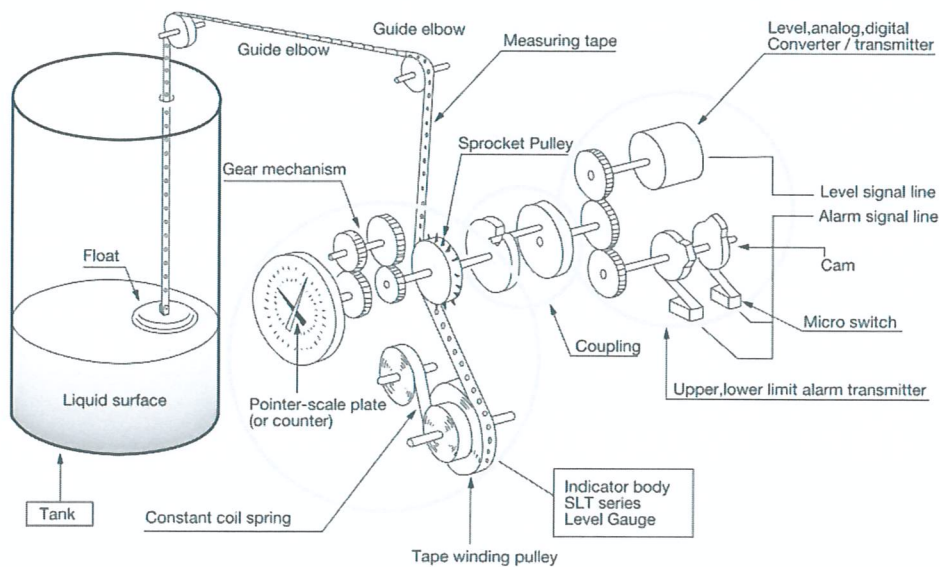

Fig.1
– Before starting a work for installation, you shall prepare or arrange each component as shown figure 1.
- Shall position the center axis of angle elbow ② to be in accordance with the axis of guide pipe of indicator body and also the axis of angle elbow is ② on the center of float.
- Before mounting remove transmitter cover. Turn drive shaft (6. Fig. 1) until both worm wheel screws are accessible.